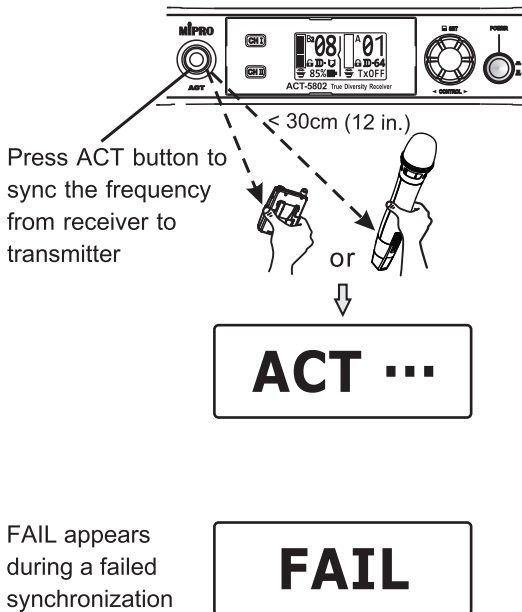

Fig. 31
- (A) Press the ACT sync button on the receiver, ACT... icon **1** appears.
Within 10 seconds, align the transmitter infrared (IR) port and receiver's ACT button with each other and within 30 cm, Fig. 31.
- (B) If receiver display shows FAIL, it indicated the sync was done unsuccessfully. Try again when sync fails.
- (C) Change is saved automatically, even when power is turned off.